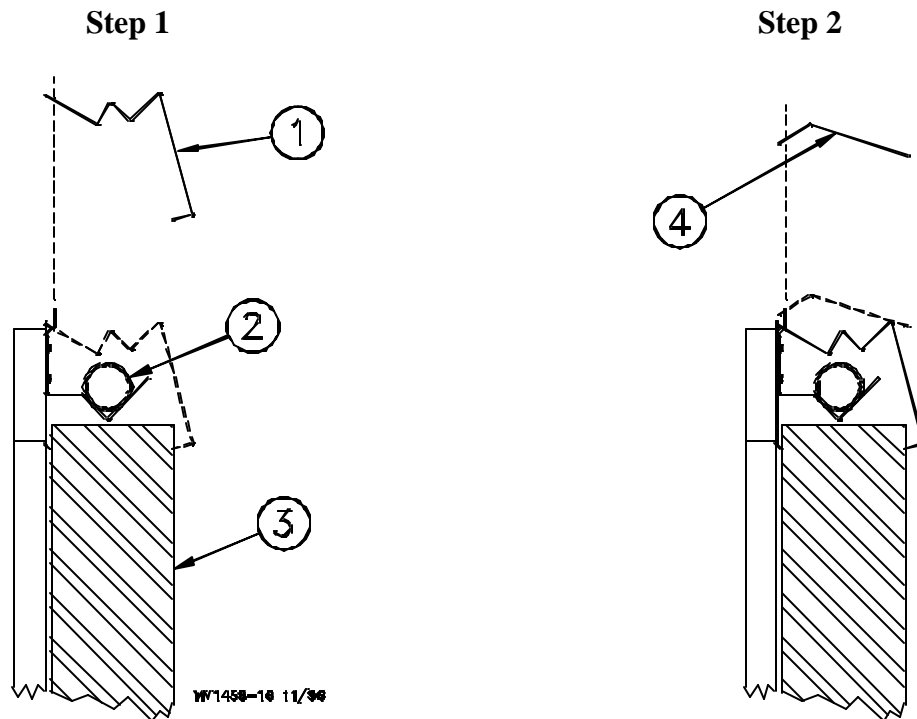

Figure 15. Cover and Cover Lock Installation
2. Set the Covers on the Pipe Hangers, as shown in **Figure 15**, Step 1.
3. Slide the Cover Locks onto the Pipe Hangers, as shown in **Figure 15**, Step 2.